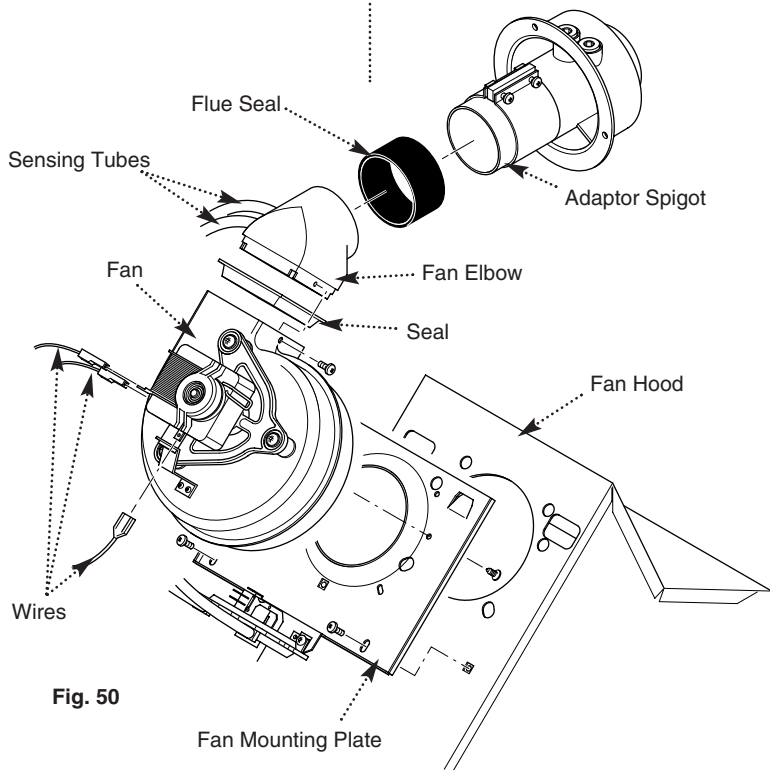

Fig. 50
1. Note the position of the wires and pipes on the pressure switch and remove them. Note the position of the fan wires and disconnect them (Fig. 50).
3. Undo the screws securing the fan mounting plate to the hood. Draw the fan and plate assembly out of the boiler (Fig. 50).
4. Remove the fan securing screws and separate the mounting plate and fan. Remove the screws securing the fan elbow to the original fan. Carefully draw the elbow out, examining the seal for damage (Fig. 50).
5. Fit the elbow to the new fan, ensuring that the seal is in position. Secure the new fan to the mounting plate and reassemble in reverse order (Fig. 50).